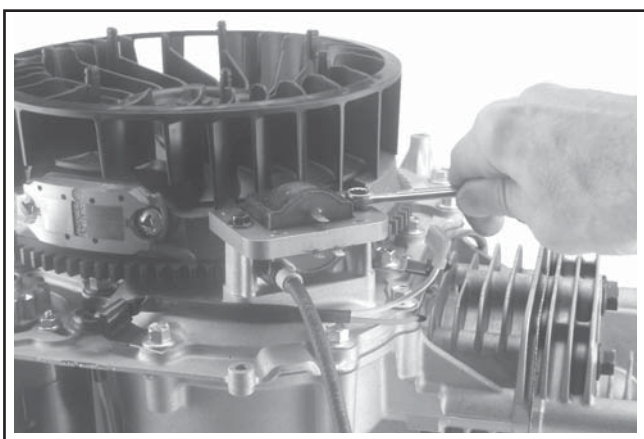

Figure 10-53. Installing Ignition Module.
1. Rotate the flywheel so the magnet is away from the ignition module bosses. Using the hex flange screws, install the ignition module to the crankcase bosses with the kill terminal up. Move the module as far from the flywheel as possible. Tighten the hex flange screws sufficiently to keep the module in position. See Figure 10-53.